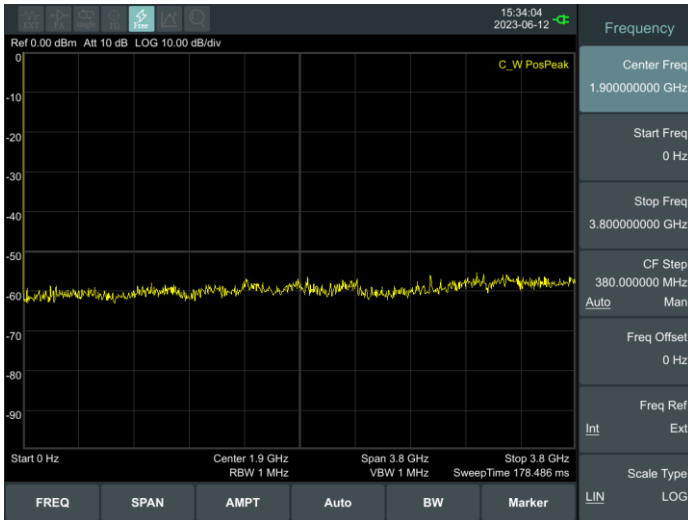

Figure 4-10 Full Span
- 1) Press **【Preset】** on the front panel to restore the analyzer to its factory-defined state. The Spectrum analyzer will display the spectrum from 9kHz to the maximum span width. The signal generated will display as a vertical line at 100MHz. Refer to Figure 4-10.